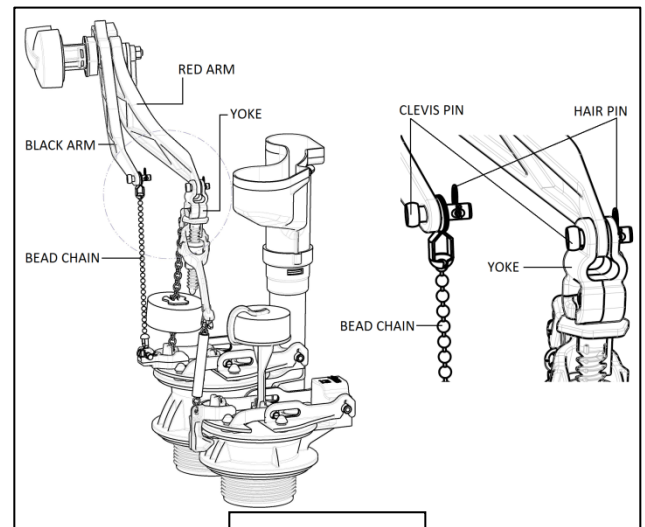

FIGURE 3
- Remove hair pin and clevis pin from the RED trip lever arm (see **FIGURE 3**); this frees the yoke from the red arm
- Remove hair pin and clevis pin from the BLACK trip lever arm (see **FIGURE 3**); this frees the bead chain from the black arm
- Insert the BLACK trip lever arm in to the chain coupler of the bead chain; push the clevis pin through the arm and insert the hair pin (see **FIGURE 3**)
- Insert the RED trip lever arm in to the yoke of the teeter bar; push the clevis pin through the arm and insert the hair pin (see **FIGURE 3**)